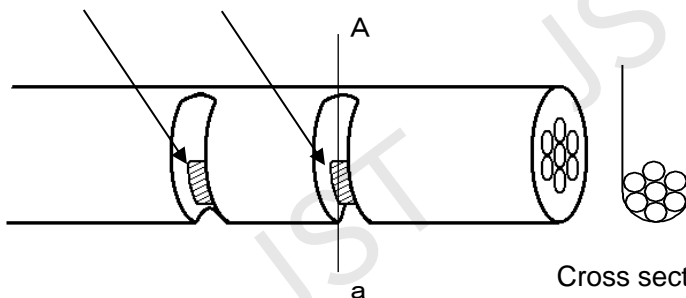

Fig.14
- ① Wire insulation is cut at the bottom of the U slot and wire conductors are seen as shown in Fig.14.